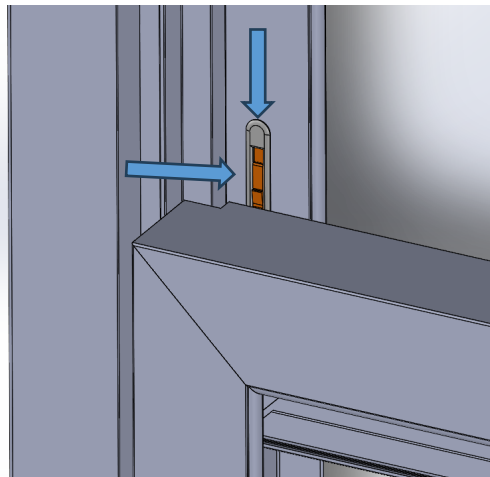

Figure 8
2. Press in both protruding WOCD latches in until they drop behind the sash as shown in Figure 8.